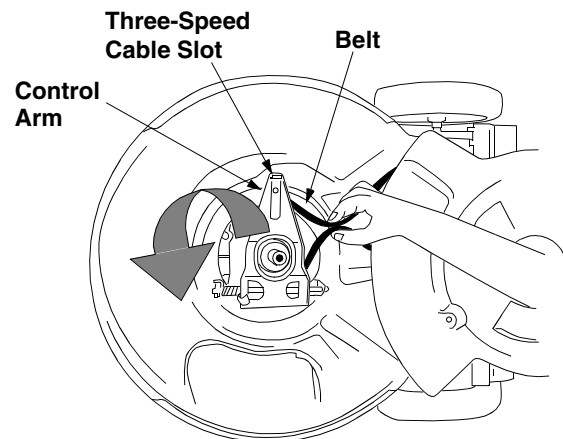

Figure 22
- Squeeze the belt together and push it forward, while pressing the control arm inward towards the deck and remove the three-speed cable from the slot. See Figure 22.